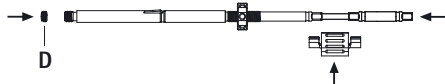

Fig. 10
- Insert the screwdriver in the inner sleeve, secure it with the spacer and install locking screw D, see Fig. 10.